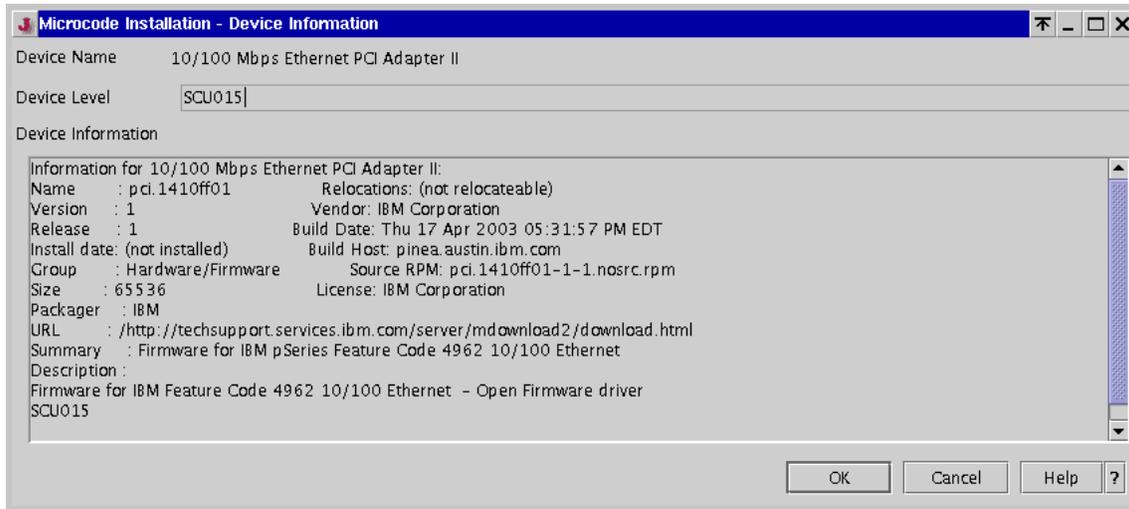

Figure 11-28 Microcode Installation - Device Information
- It is also possible to view the details for each device. Select the device to be viewed and click **View Information**. The details of the device will be shown as in Figure 11-28 on page 278.